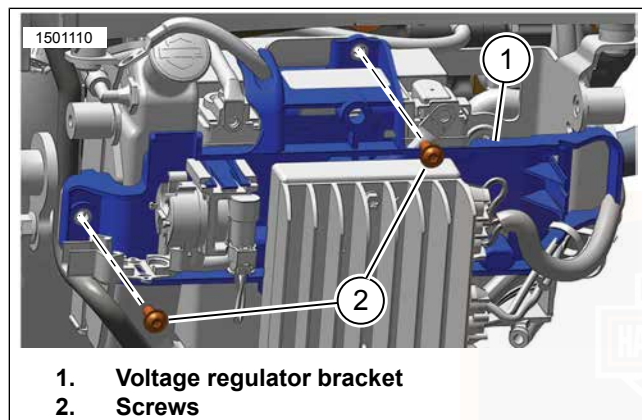

Figure 78. Voltage Regulator Bracket Screws
5. See Figure 78. Remove voltage regulator bracket screws (2).
2. See Figure 78. Position voltage regulator bracket (1).
3. Install voltage regulator bracket screws (2). Tighten.